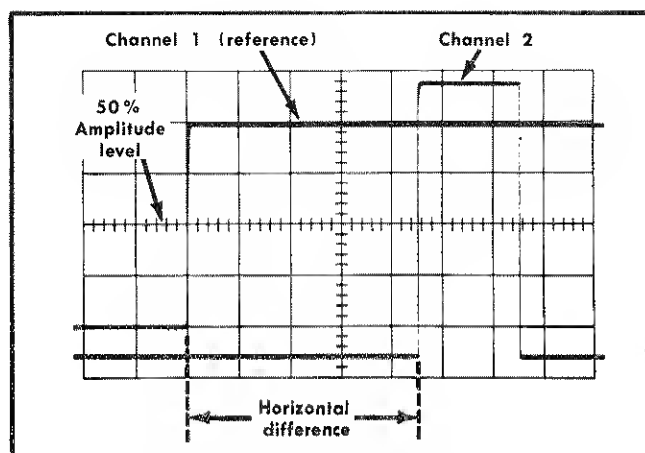

Fig. 2-19. Measuring time difference between two pulses.
11. Measure the horizontal difference between the Channel 1 waveform and the Channel 2 waveform (see Fig. 2-19).
Example. Assume that the TIME/DIV switch is set to 50 μ s, the MAG switch to $\times 10$ and the horizontal difference between waveforms is 4.5 divisions (see Fig. 2-19).